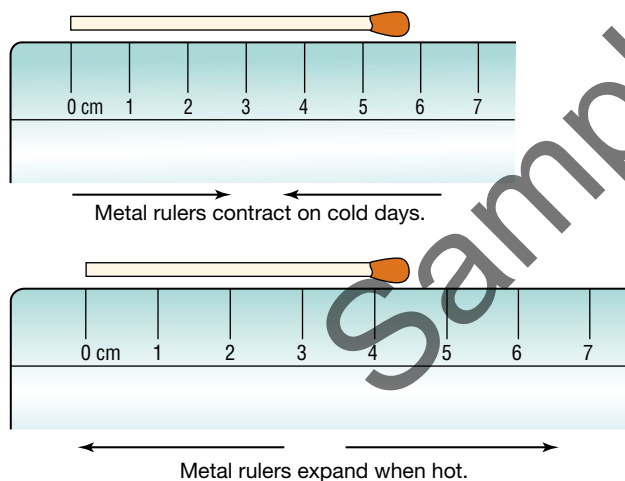

FIGURE 1.1.5 Metal rulers give different measurements at different temperatures. This makes the match appear 'longer' on cold days.
- **instrument errors**—sometimes an instrument may be faulty and will never give the right reading. Some instruments give correct readings only at certain temperatures and will give small errors if used at any other temperature. For example, a metal ruler expands when hot, pushing its markings further apart. As Figure 1.1.5 shows, this makes measurements taken on a hot day slightly smaller than those made on a cold day.